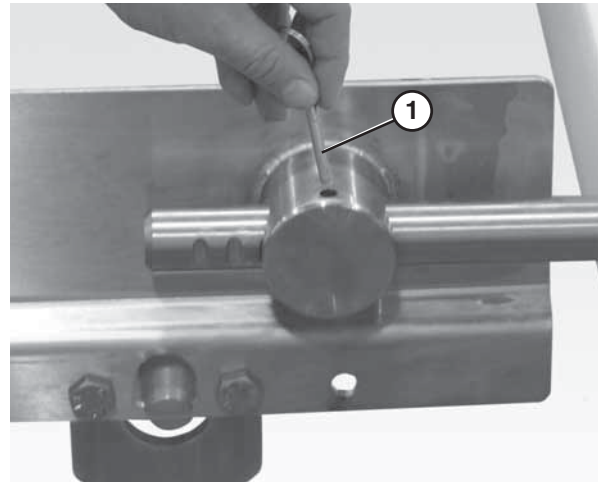

Figure 53
2. Remove the pull pin (Figure 53, item 1) on the tension end of the conveyor to release belt tension.